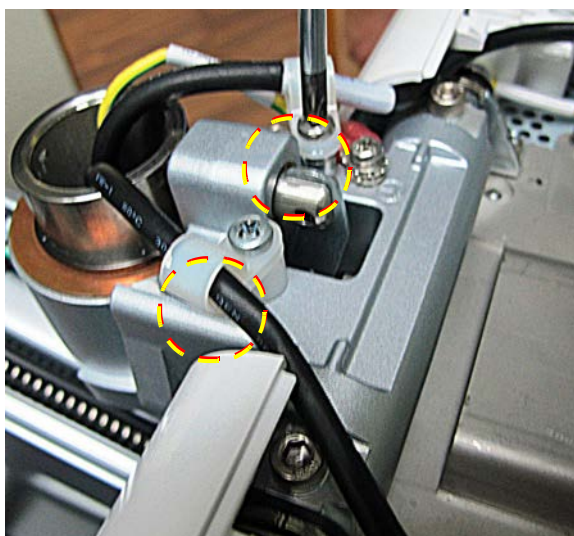

Figure 8-72 Cable Holders Located on Articulated Arm
3.) Unscrew the two cable holders as shown in Figure 8-72 below.